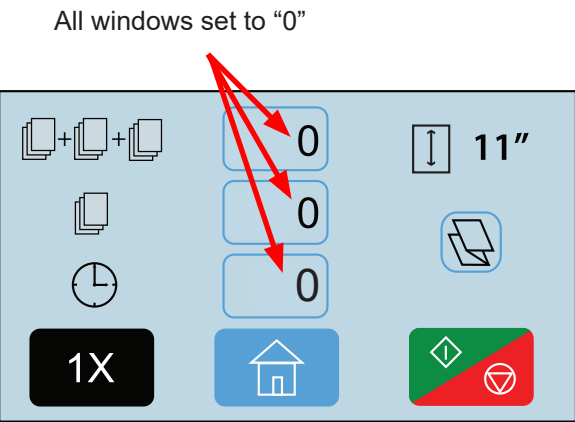

Fig. 53b
- 2. In the AutoBatch mode insure all windows are set to “0”. (Fig. 53b)